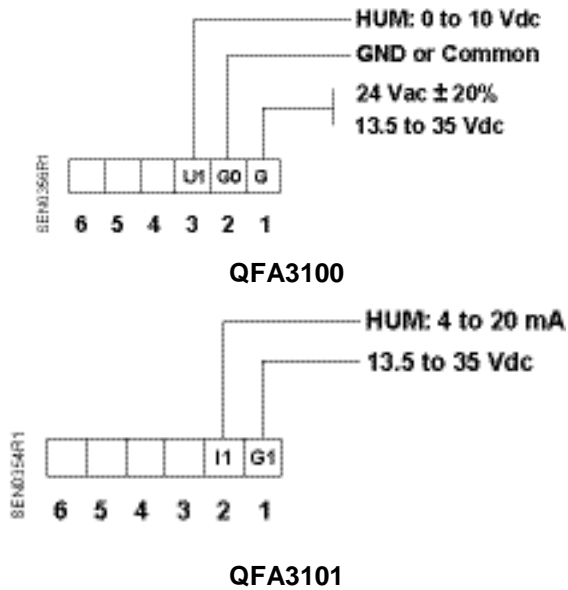

Figure 3. Wiring Diagrams for RH Sensors.
- Connect the field wiring to the sensor terminal block on the base. See Figures 3 and 4 for wiring diagrams.